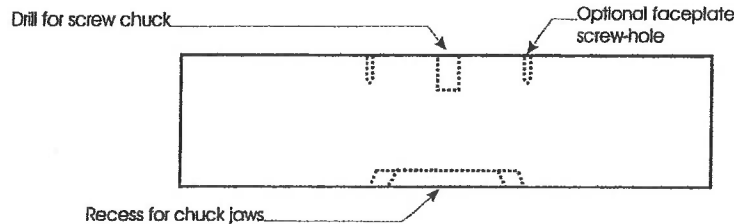

Figure 1: Screw-chuck hole and scroll chuck recess
4. Draw in the recess area for your scroll chuck jaws, and sketch in the hole for the screw chuck, or holes for faceplate screws. See Figure 1.
To maximize support, you can use a faux recess/spigot as shown in Figure 1. This entails cutting a recess slightly larger than the chuck jaws, with a dovetailed spigot in the center, sized so that the chuck jaws can grip it.